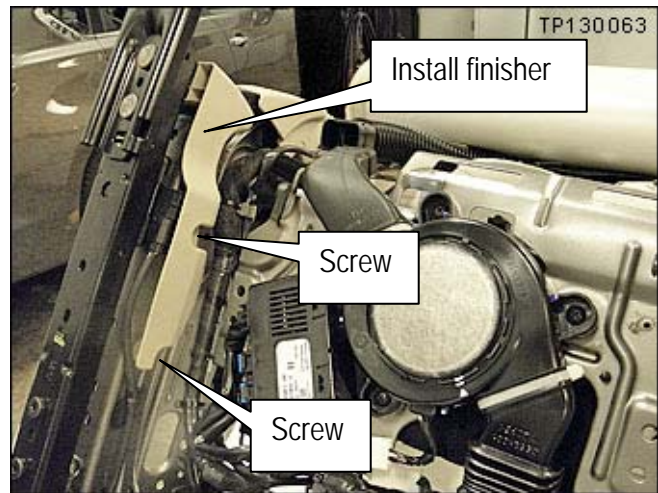

Figure 28
38. Reinstall the finisher shown in Figure 28.